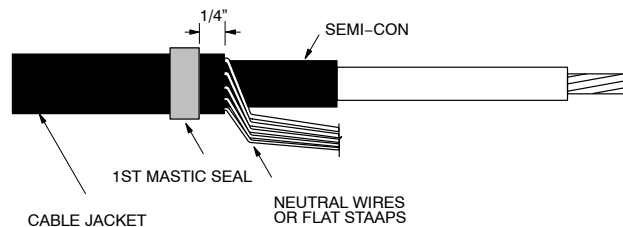

FIGURE 2
3. Select one of the two mastic strips from the kit and remove white release liners. Using light tension apply a single wrap of mastic around the cable jacket 1/4" from the cut edge. Cut off excess mastic See Figure 2.